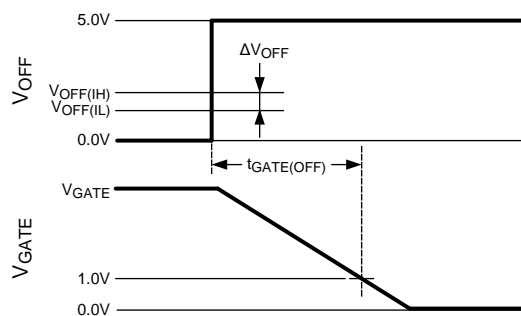

Figure 7. Gate Off Timing for V_{OFF} Transition
(2) Time from V_{OFF} voltage transition from 0.0V to 5.0V until GATE pin voltage falls to $\leq 1.0\text{V}$. See Figure 7